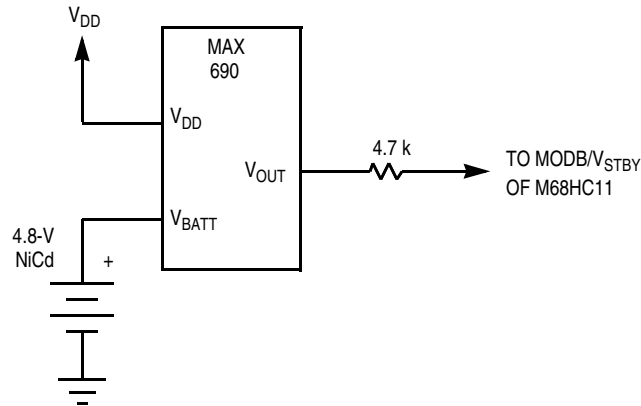

Figure 2-8. RAM Standby MODB/V_{STBY} Connections
2. In the second method, the MODB/ V_{STBY} pin can supply RAM power from a battery backup or from a second power supply. Figure 2-8 shows a typical standby voltage circuit for a standard 5-volt device. Adjustments to the circuit must be made for devices that operate at lower voltages. Using the MODB/ V_{STBY} pin may require external hardware, but can be justified when a significant amount of external circuitry is operating from V_{DD} . If V_{STBY} is used to maintain RAM contents, reset must be held low whenever V_{DD} is below normal operating level. Refer to Chapter 5 Resets and Interrupts.